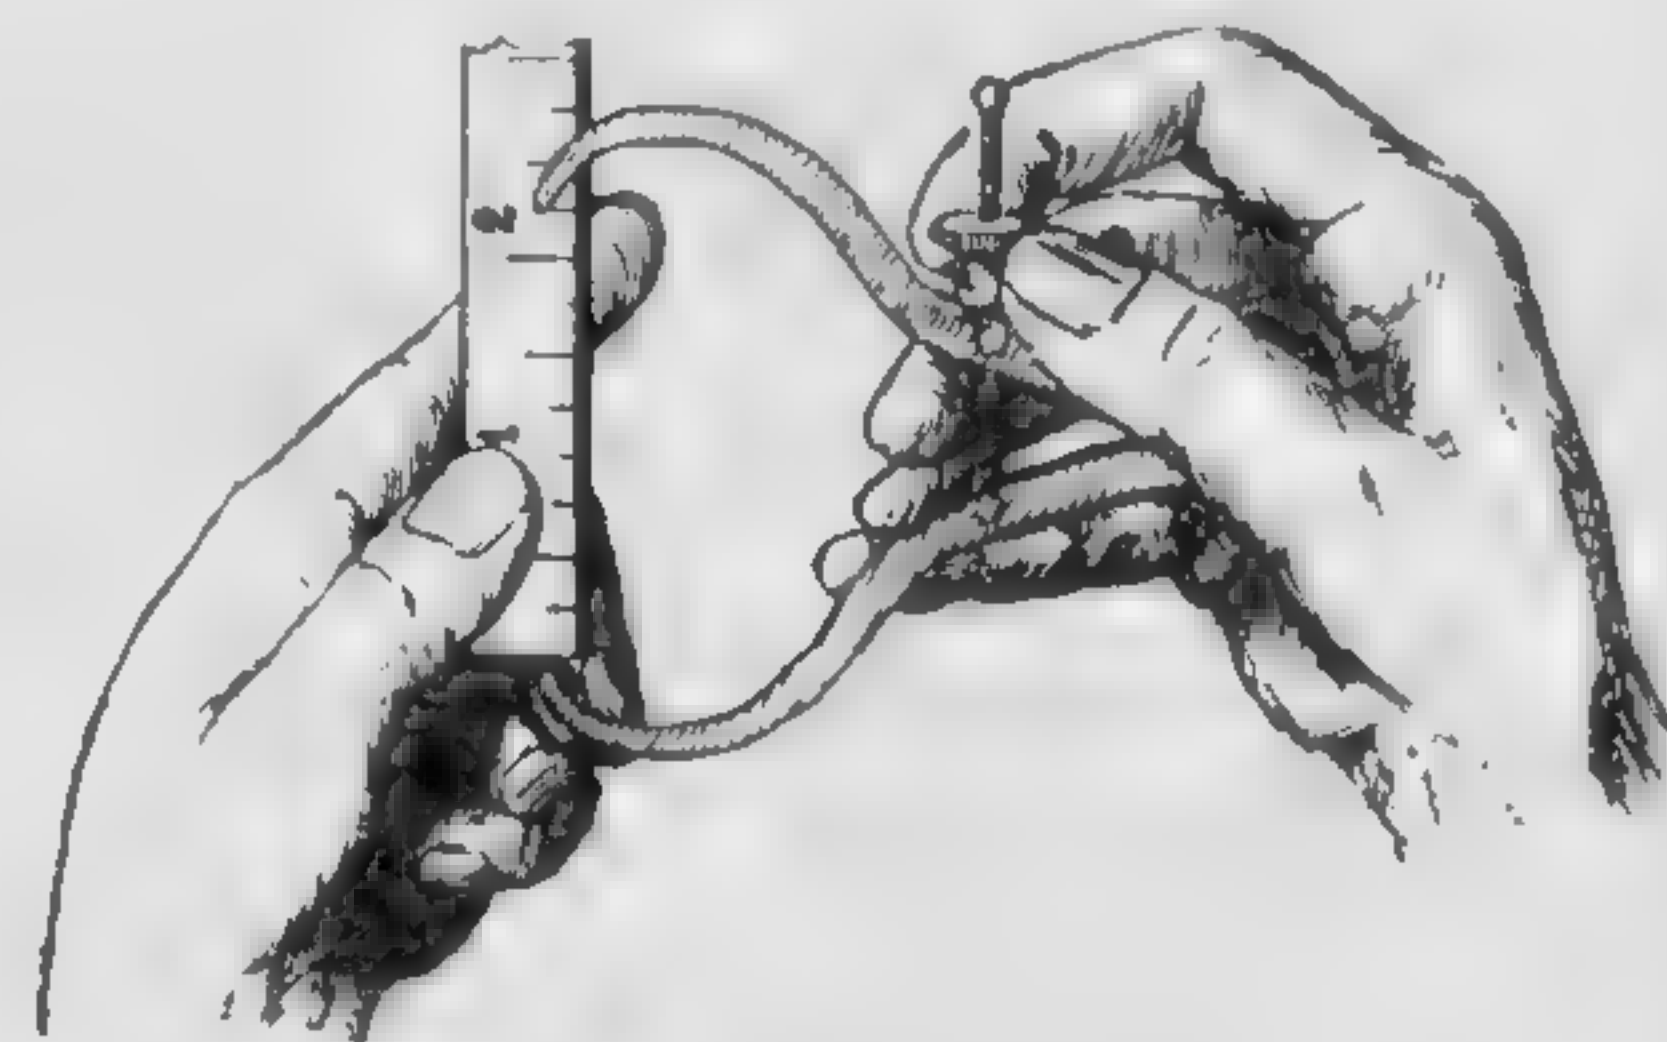

Fig. 13. Reading an Outside Caliper Setting
5. Place one of the legs at the end of the rule. Place the other leg on the graduated edge of the rule but in line with the other leg and square with the edge of the scale, as shown in Fig. 13.